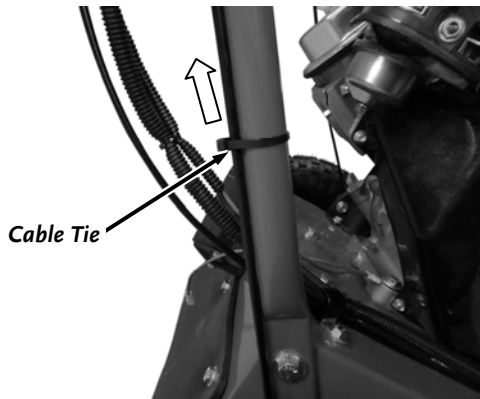

Figure 16
20. If there is a Cable Tie securing the Throttle Cable to the lower portion of the Handlebar, slide the Cable tie about half way up the Handlebar (**Figure 16**). If it is too tight to move easily, the Cable Tie can be cut off.